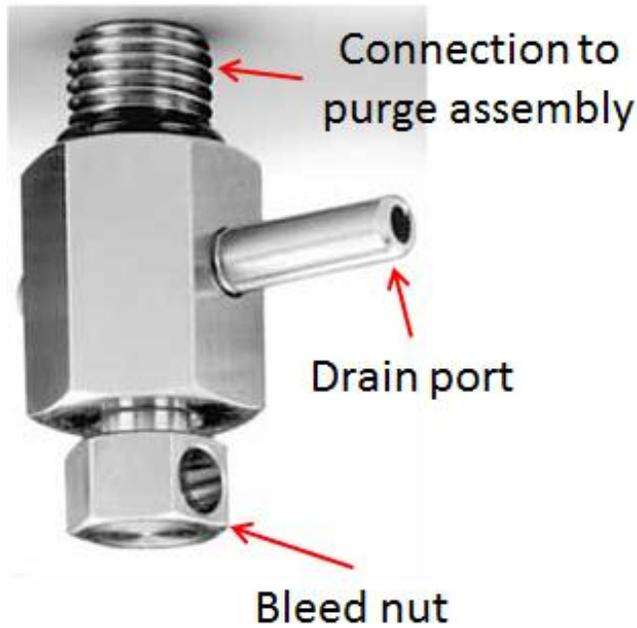

Figure 7.3: Bleed valve on bottom of purge port.
3. Open the bleed valve by turning the bleed nut ¼ turn, see Figure 7.3. Take care as the purge assembly may be pressurized.